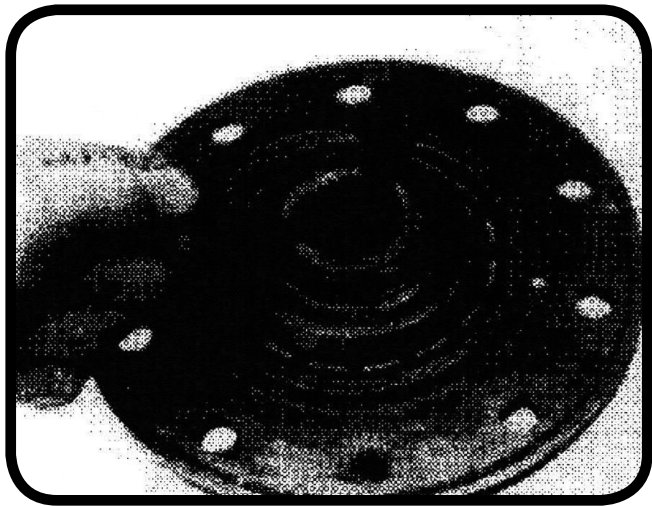

Figure 13
7. Place the other side gear (the one that formerly was in the bottom of the case) onto the top driver with the teeth meshed and then place the thrust washer on it (**Figure 13**). The smoothest side of the washer is placed next to the gear.